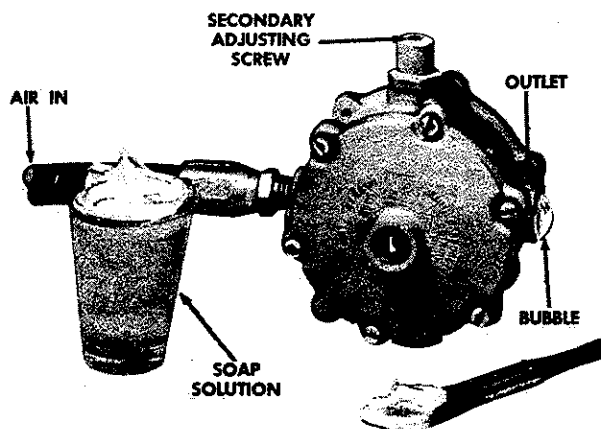

FIGURE 26
3. Keep regulator inlet connected to a source of compressed air or gas in excess of 25 PSI. Remove pressure gauge from fuel outlet channel and cover opening with a film of bubble solution. If secondary regulator valve is leaking a bubble will begin to expand. Clean or replace valve parts as needed and re-check for leak. Figure 26.